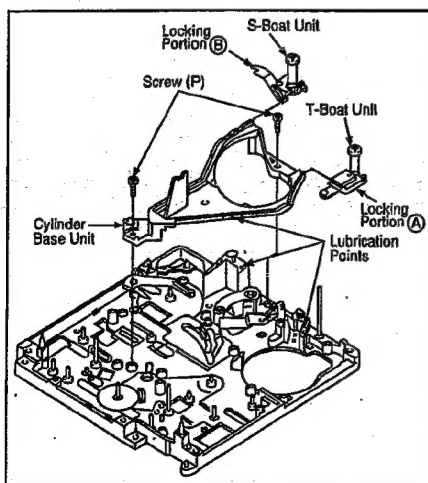
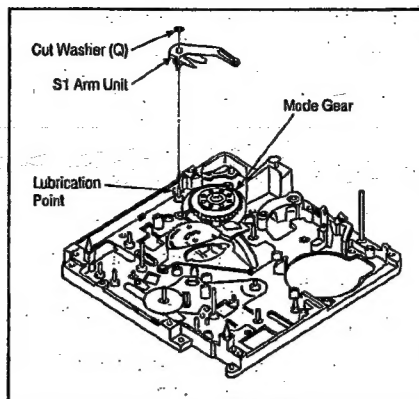

Fig. M23
Fig. M24
- Fig. M23 Hold (N) and (O) positions on S1 and T1 Arm units and unlock the locking portions (A) and (B) with tweezers.
- Remove 2 screws (P) and Cylinder Base Unit with S and T Boat Units. Then remove S and T Boat Units from the Cylinder Base Unit.
- Then connect the locking portion (A) and (B).
13. S1 Arm Fig. M24 Turn the Mode Gear to fully counter-clockwise.